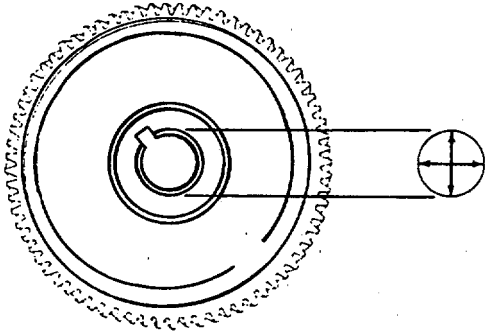

FIGURE 4-28. Measuring Gear Bore.
- (1) Inspect the gear for cracks, chipped or broken teeth.
- (2) Inspect the bore of the gear for burrs or other damage.
- (3) Inspect the gear keyway for burrs.
- (4) Measure the gear bore (FIGURE 4-28).